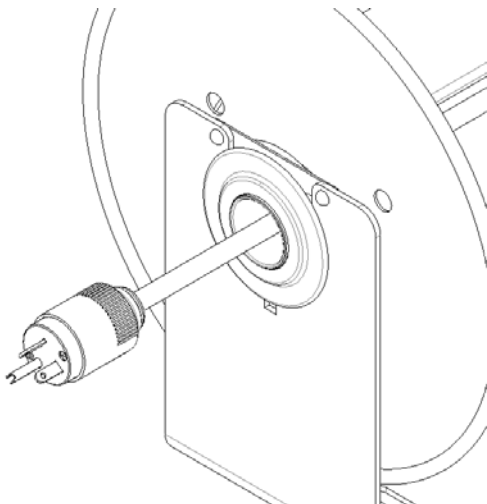

FIGURE 1.0
- Select a length for the amount of cable/hose that you wish to leave as the connector. This amount will not be wound onto the drum but will exit out of the axle and must be able to be pushed inside of the drum. Any amount of cable/hose not able to be pushed into the drum may lash around when winding/unwinding the reel. **(See Fig 1.0)**